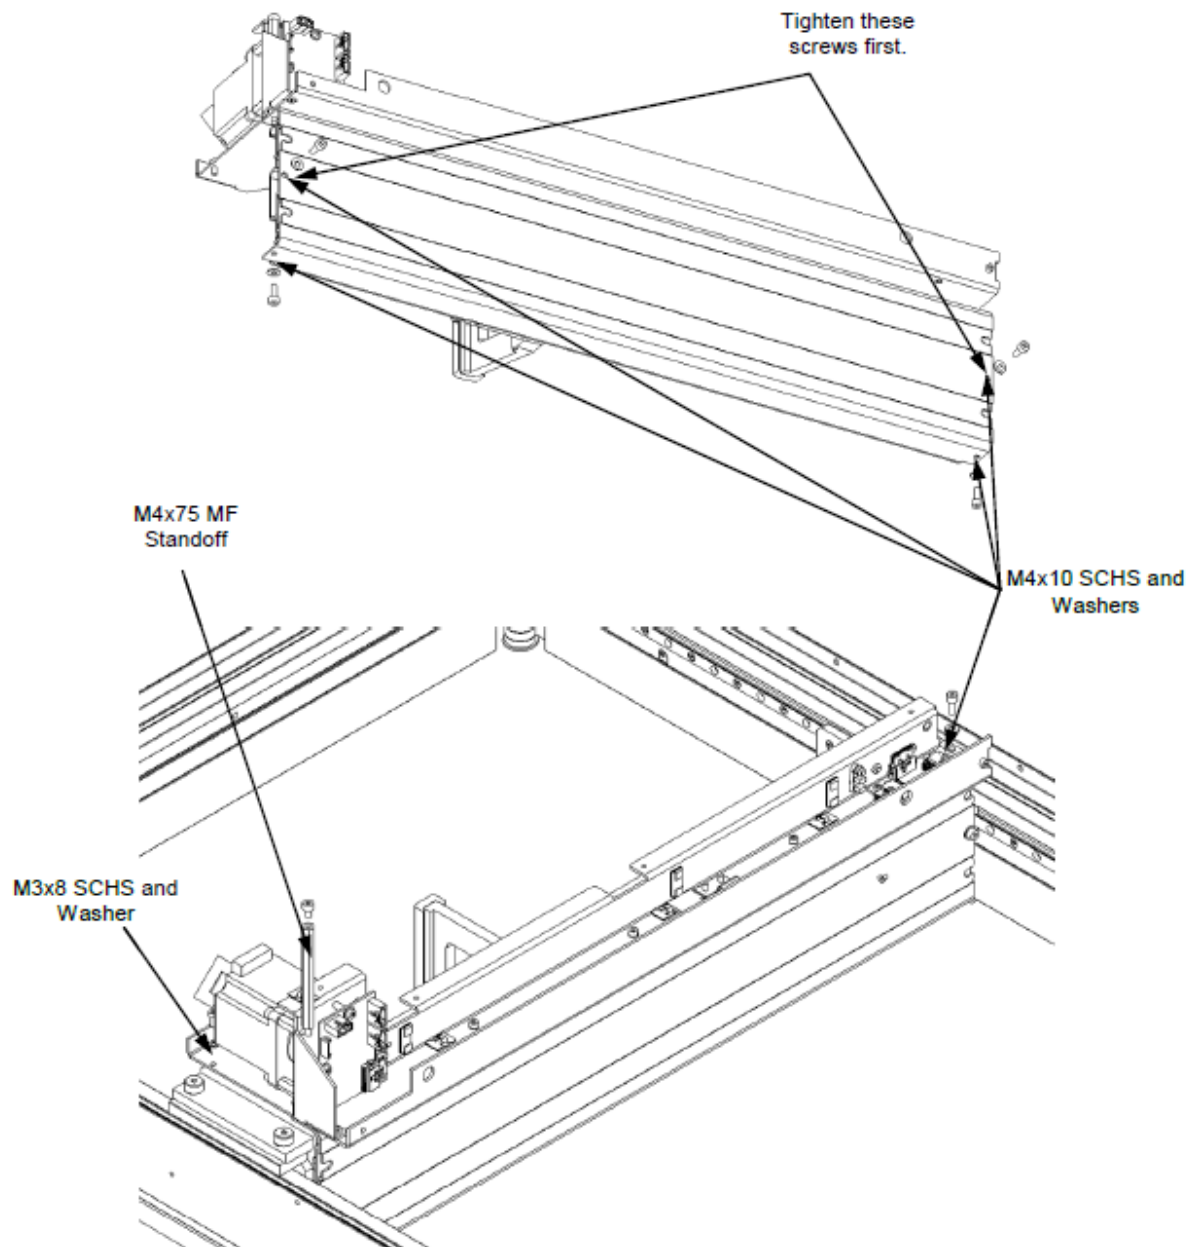

Figure X-26: Fitting the Y Drive to the X Drive
6. Loosely fit the Y drive to the X Drive using five M4x10 screws and M4 Washers, one M3x8 SCHS (and one M3 Washer. Use Loctite 222 (Figure X-26).